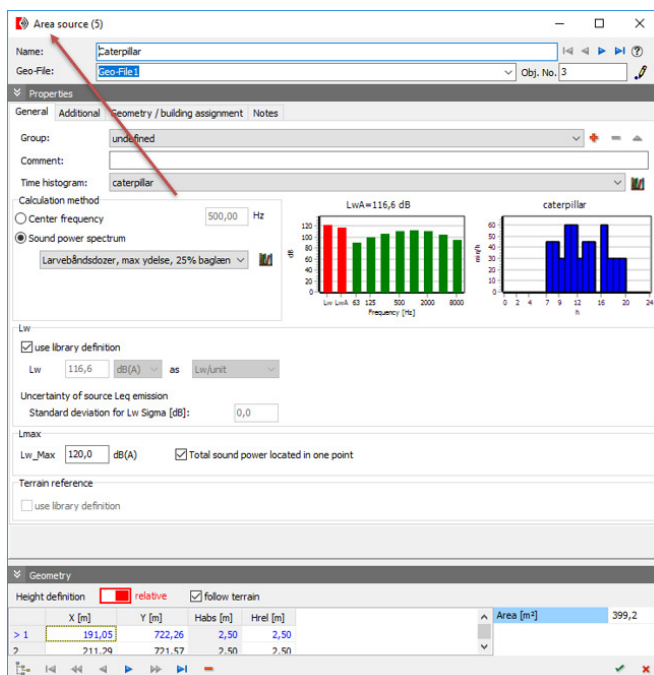

Fig 1 Area source modelling a point source moving randomly inside area
Fig 1 shows an example. The emission is defined by the unit sound power level L_{WA} (e. g. 116,6 dB(A) for a caterpillar (record #20 in the Danish emission lib)), and the time history t is specified in min/h.